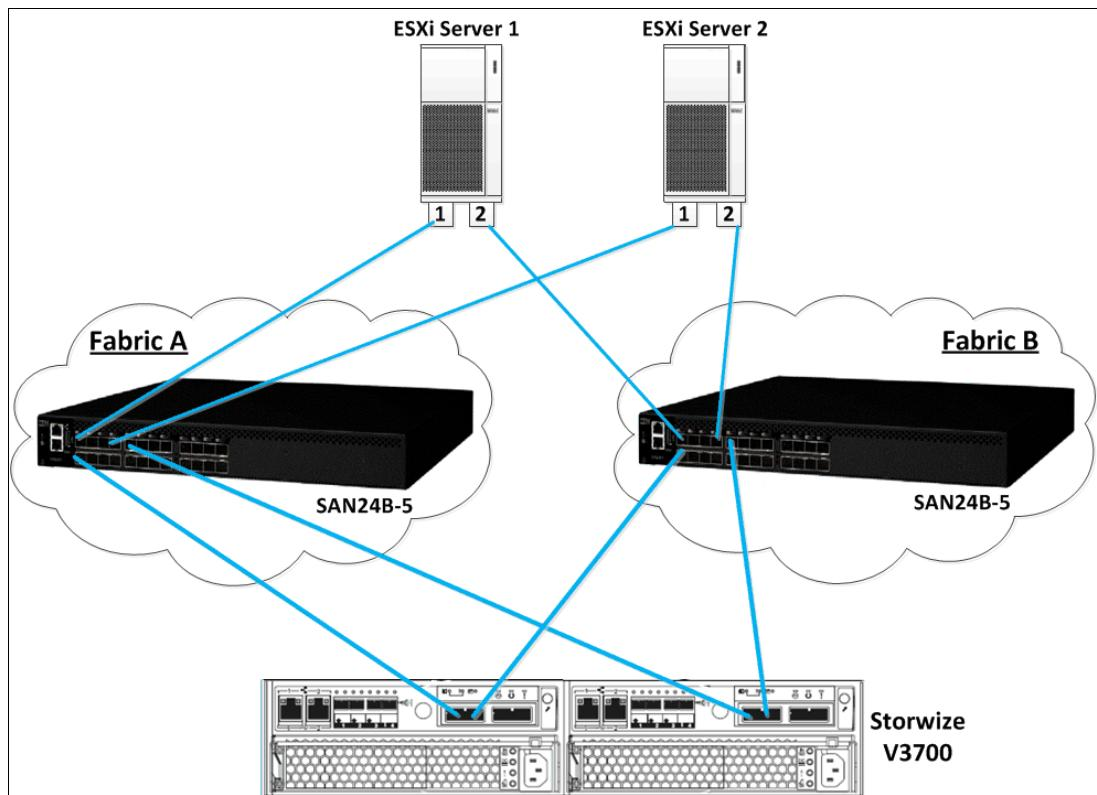

Figure 6-1 High-level view for the topology being considered
The adopted SAN topology in this example is called *Collapsed Core Topology* because it is composed of only one switch per fabric in a dual fabric, meaning that there is no Inter-Switch Link (ISL) between them, as shown in Figure 6-1. It is the simplest design for infrastructures that require some redundancy.
Considering the components in Figure 6-1 on page 202, we will assume the following naming convention just to make it easier to understand during the explanation:
As also shown in Figure 6-1 on page 202, the approach used here is to have all “odd” port/HBA attached to Fabric A and all “even” port/HBA attached to Fabric B. Therefore, we can now start working on the zoning scheme by using the same approach for a better understanding.
- FC Host Adapter ports are connected to the switches (refer to Figure 6-1 on page 202)